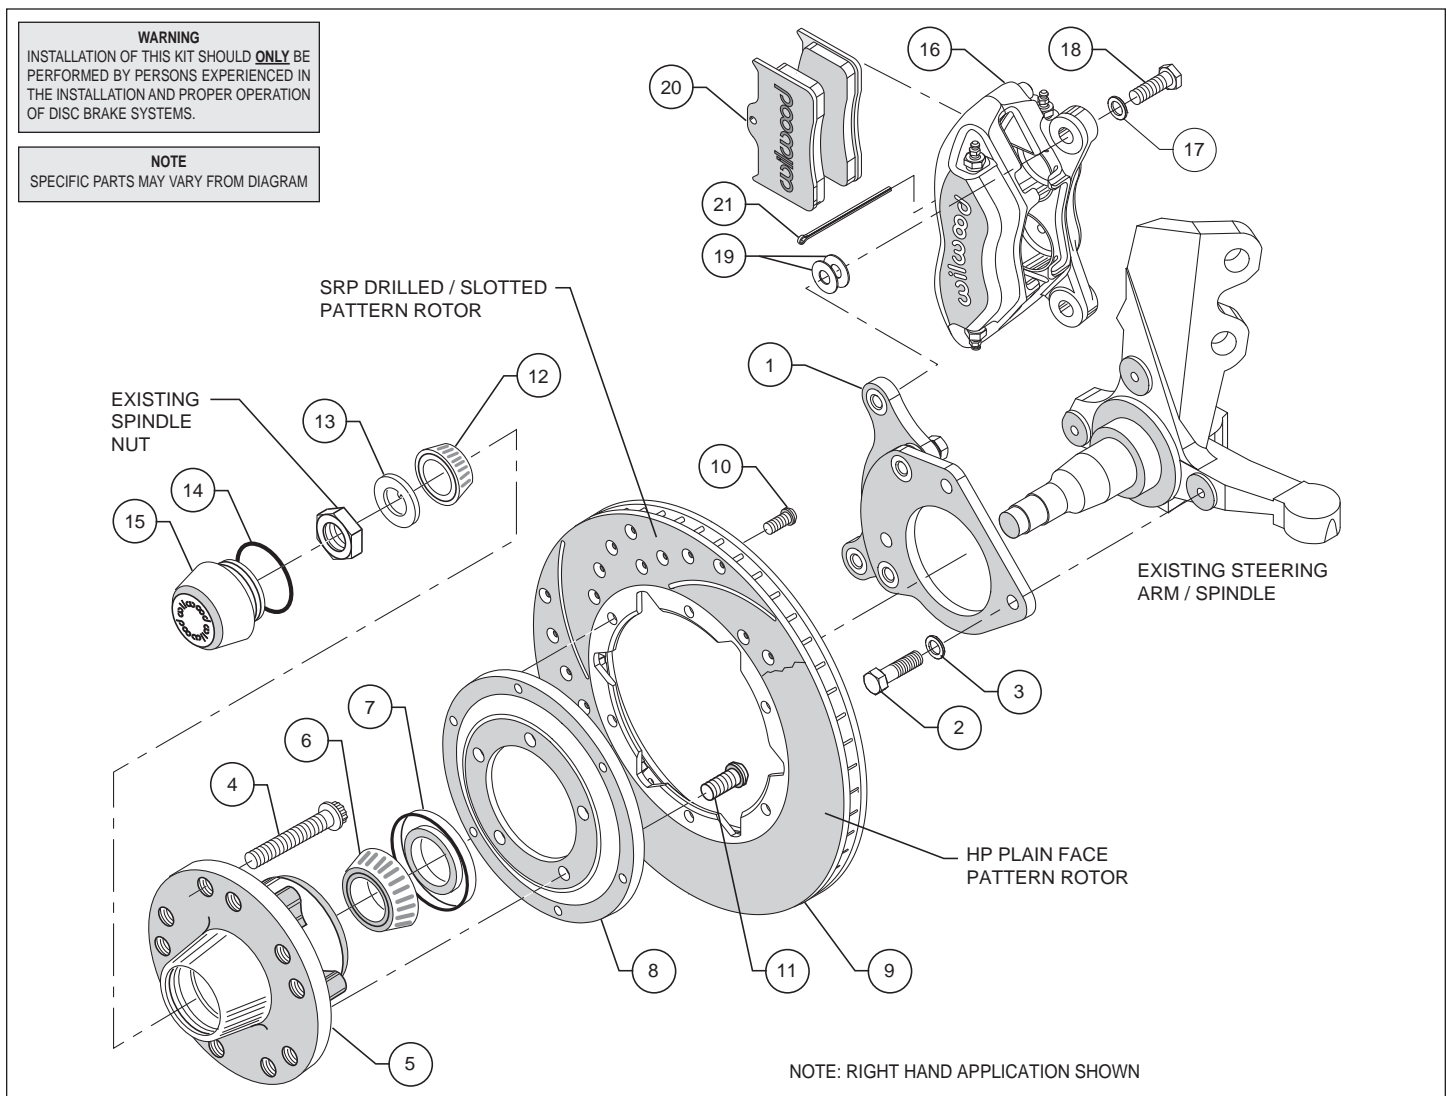

Figure 1. Typical Installation Configuration
Assembly Instructions (numbers in parenthesis refer to the parts list and Figure 1 on the preceding pages): **CAUTION:** All mounting bolts must fully engage clinch nuts. Be sure to check that all bolts are either flush or protruding through flanged side of clinch nut after shimming, Figure 3.
- Align caliper mounting bracket (1) with the corresponding holes, to the face of the spindle and attach using bolts (2) and washers (3), as shown in Figure 1 and Photo 2. Temporarily tighten the mounting bolts. Ensure that the flanged heads of the clinch nuts in the bracket are facing outboard, Photo 2. **NOTE:** The bracket must fit squarely against the mounting points on the spindle. Inspect for interference from casting irregularities, machining ridges, burrs, etc. Remove bolts one at a time, apply red Loctite® 271 to the threads, and torque to 40 ft-lb.
- Orient the rotor (9) and the rotor adapter (8) as shown in Figure 1 and Photo 5. Attach the rotor to the adapter using bolts (10). Using an alternating sequence, apply red *Loctite*® 271 to the threads, and torque to 25 ft-lb.
- Mount the adapter/rotor assembly (8/9) to the hub (5) using bolts (11), as shown in Figure 1 and Photo 6. Using an alternating sequence, apply red *Loctite*® 271 to the threads, and torque to 55 ft-lb.
- NOTE:** Please reference the caution statement at the beginning of the assembly instructions. Mount the caliper (16) onto the caliper mounting bracket (1) using bolts (18) and washers (17), as shown in Figure 1. Initially place two .035" thick shims (19) on each bolt between the caliper and the bracket, Photo 9. Temporarily tighten the mounting bolts and view the rotor (9) through the top opening of the caliper. The rotor should be centered in the caliper, Photo 10. If not, adjust by adding or subtracting shims between the bracket and the caliper. Always use the same amount of shims on each of the two mounting bolts. **NOTE:** The end of each bolt must be flush with or slightly protruding from the head of the clinch nut, as shown in Figure 3. If necessary place spare shims between washer (17) and caliper mounting ear to achieve the proper clinch nut engagement. Once the caliper alignment and clinch nut engagement are correct, remove the bolts one at a time, apply red *Loctite*® 271 to bolt threads, and torque to 40 ft-lb.